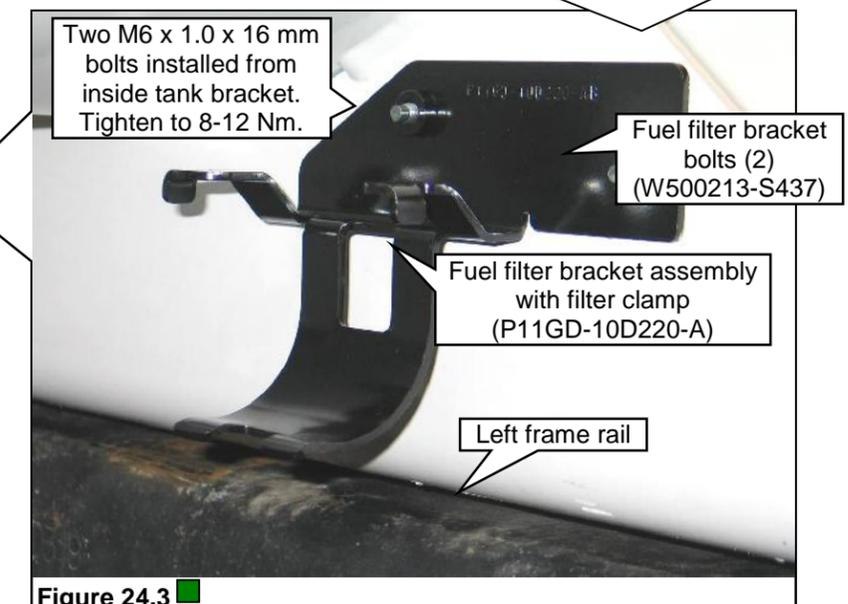

Figure 24.3 ■
11. Position the fuel filter bracket with clamp and install the two M6 x 1.0 x 16 mm bolts. The filter bracket goes on the outside of the left tank bracket with the bolts coming from the inside into the bracket weld nuts. Tighten the bracket bolts to 8-12 Nm. **Figure 24.3.**